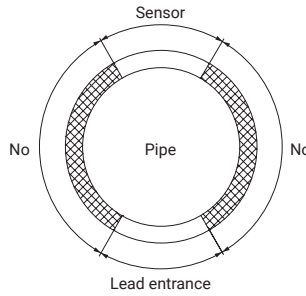

Figure 8: Sensor and lead entrance
- The lead wire needs to leave the insulation so that no moisture can enter the cladding-insulation system. (Figure 8)